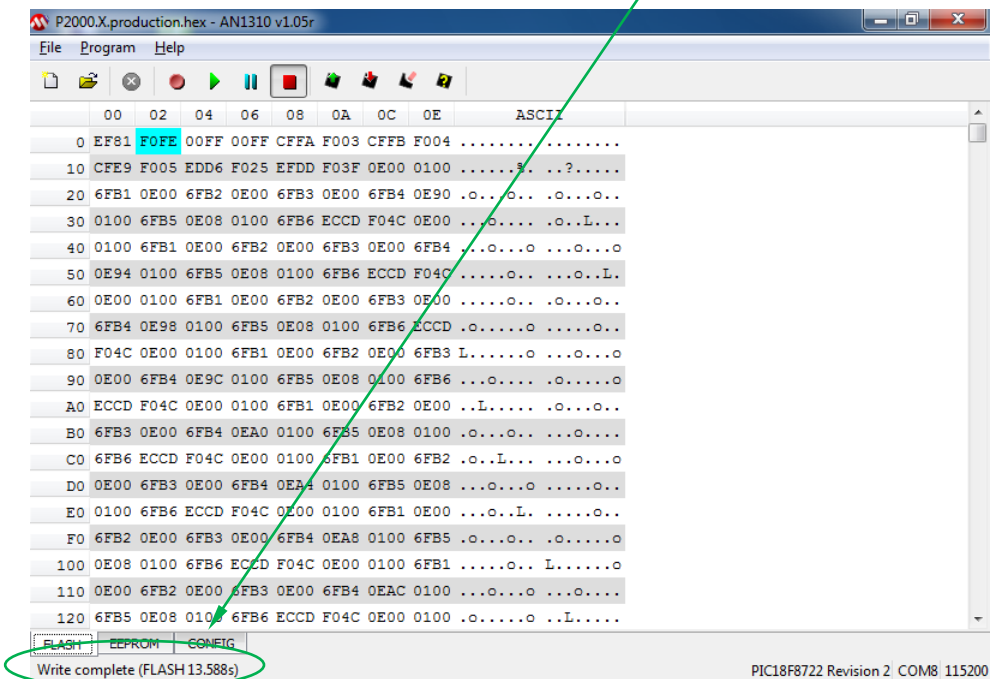

Figure 3.20
- 9. The bootloader software will replace the old firmware in the SP-2000 board with the new one. The bottom status bar will indicate “Write complete” when this step is completed (*Figure 3.20*).